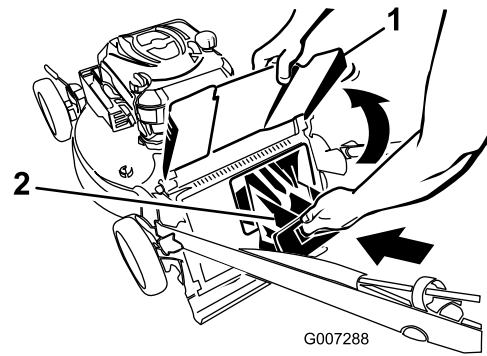
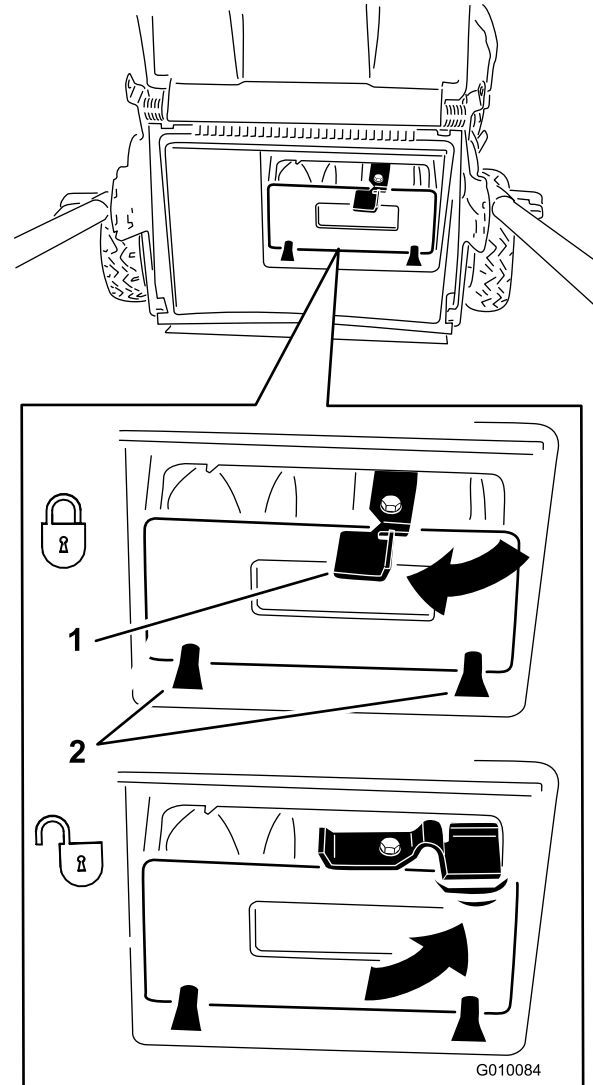

Figure 18
Figure 19
**Important:** Ensure that the rear discharge plug is locked in place. To lock the plug: Raise the discharge deflector (Figure 18), firmly push the plug in until it snaps into place behind the tabs, and rotate the lever on the plug to the left (Figure 19).
**Note:** To unlock the plug, rotate the lever on the plug to the right (Figure 19).